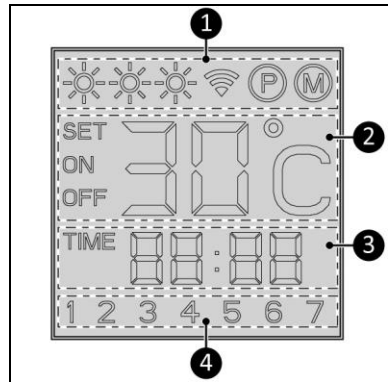

Figure 4
Status indication (Figure 4, pos. 1):
Temperature indication (Figure 4, pos. 2):
Time indication (Figure 4, pos. 3):
Day indication (Figure 4, pos. 4):